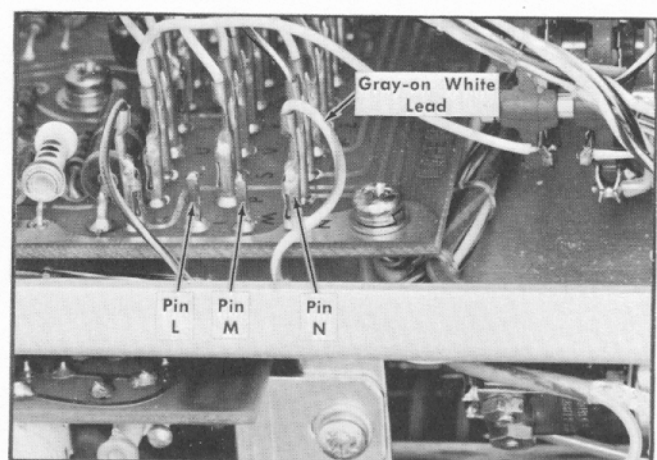

Fig. 7-39. Gray-on-white lead moved from pin "M" (normal connection) to pin "N". Pins L, M and N determine the trigger amplifier bandwidth conditions.
r. Remove the Type 1A4 from the oscilloscope plug-in compartment. Remove the gray-on-white trigger amplifier bandwidth control lead from pin "M" on the Logic board and connect this same lead to pin "N" (see Fig. 7-39). Install the Type 1A4 in the oscilloscope.